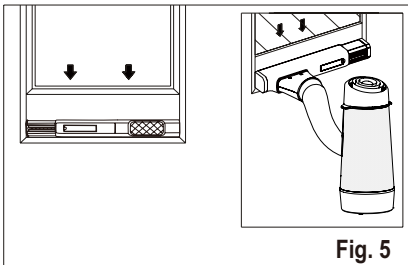

Fig. 5
3. Install the window kit on the window and slide the adaptor B into the window slider kit and seal. (Fig. 5 & 6)